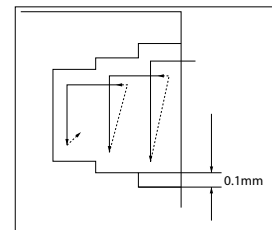

Fig. 6
1) When widening the groove width. (Ref. to Fig. 6)